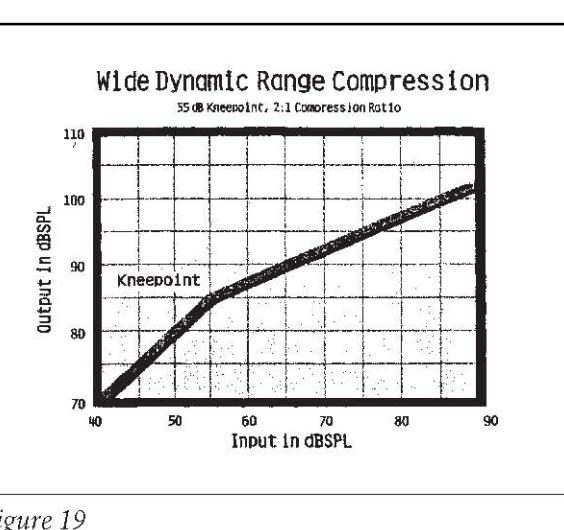

Figure 19
**Figure 19** shows the input output curve of a Wide Dynamic Range Compression Hearing Instrument with a 55 dB SPL compression kneepoint (CK) and a compression ratio (CR) of 2:1.